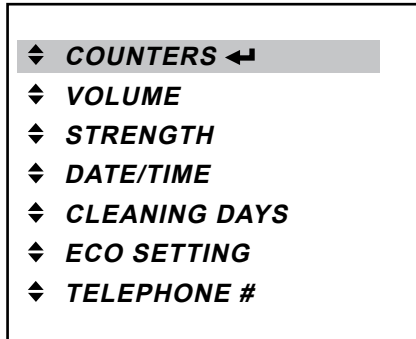

Fig. 38
- In the operator mode, press the enter button **↵** to access the «COUNTERS» menu (fig. 38).